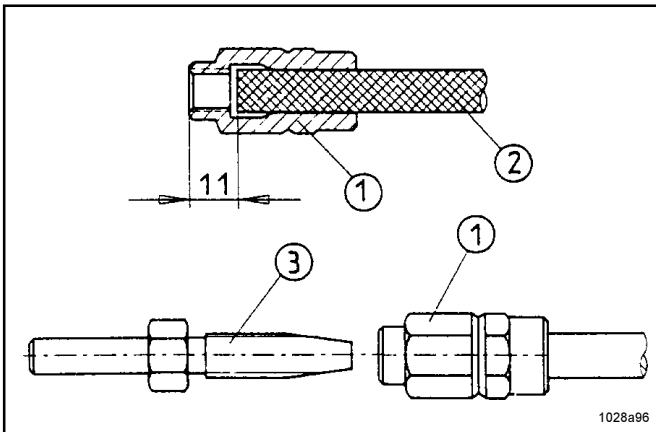

Fig. 29 - Preassembly of the threaded sleeves and hose studs on the main line
- Screw the threaded sleeve, item 1 Fig. 29, counterclockwise onto the high pressure plastic hose 2 until the illustrated dimension of 11 mm is reached. Then screw the hose stud 3 into the threaded sleeve 1.